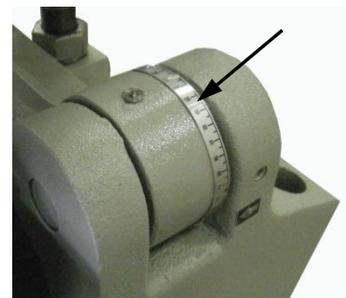

figure 23
4. Pull up on the bending leaf handles until the piece part has reached the desired bend angle (fig. 23).